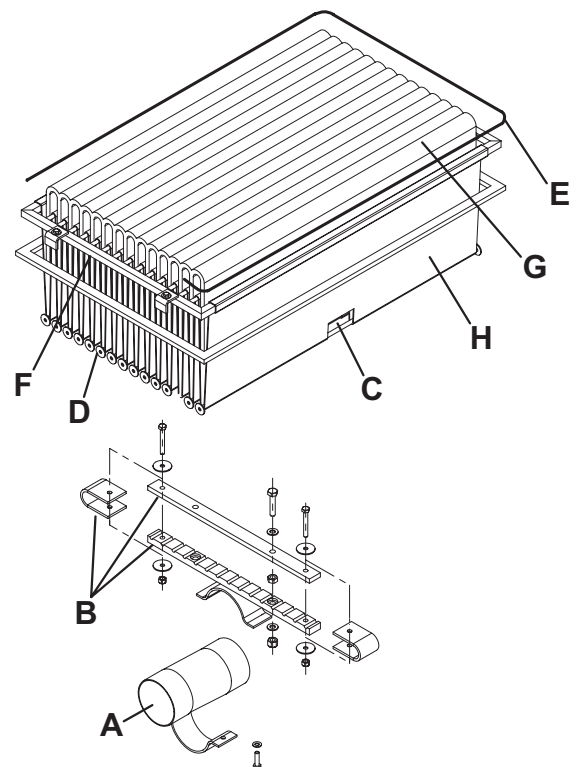

Figure 18
8. Remove the filter shaker motor (A, Fig. 18) by unscrewing the two mounting screws.
9. Open the filter shaker motor support unit (B, Fig. 18) completely, and release the filtering pocket tension rods (C).
10. Remove all the filtering pocket tension rods (D, Fig. 18).
11. Open the upper retaining cord (E, Fig. 18) of the closed pocket filter to remove it from the upper frame (F).
12. Remove the inner pocket separator (G, Fig. 18).
13. Clean the polyester fiber surface (H, Fig. 18) from the dirty side (by using an external vacuum cleaner), spreading it out completely or cleaning pocket by pocket. At the same time, clean both surfaces of the pocket separator (G, Fig. 18), thus removing anything deposited on them. Check the filtering surface for tears and replace it if necessary. It is also possible to use compressed air (maximum 6 Bar), blowing the air from the clean side towards the dirty side.